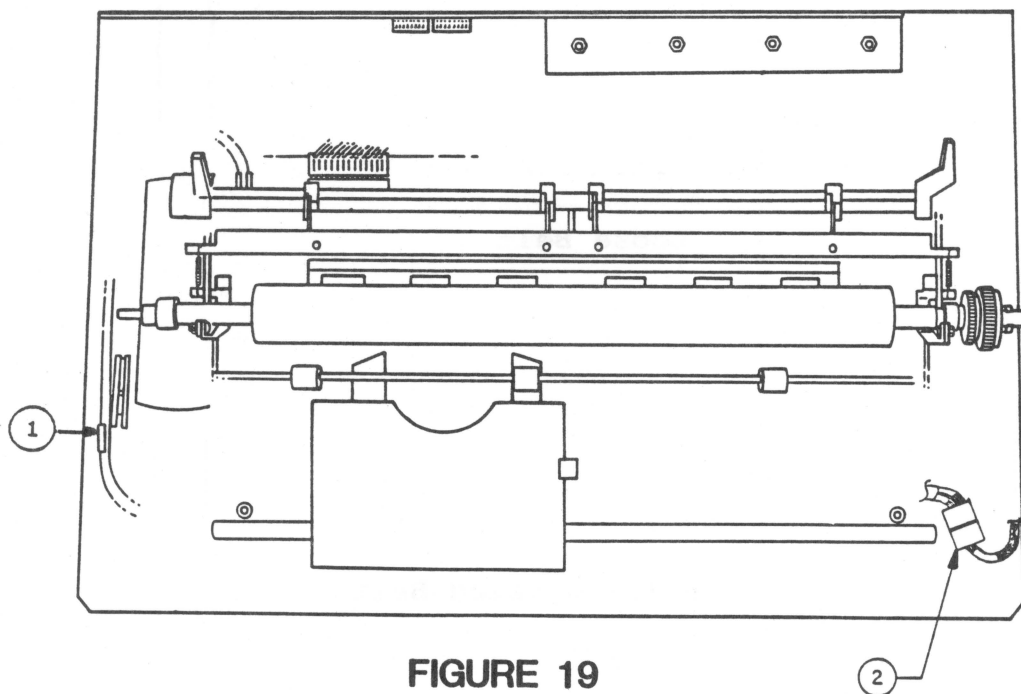

FIGURE 19
- \*7. Slip the harness cable into its clamp on the left side of the frame (see Figure 19, #1).